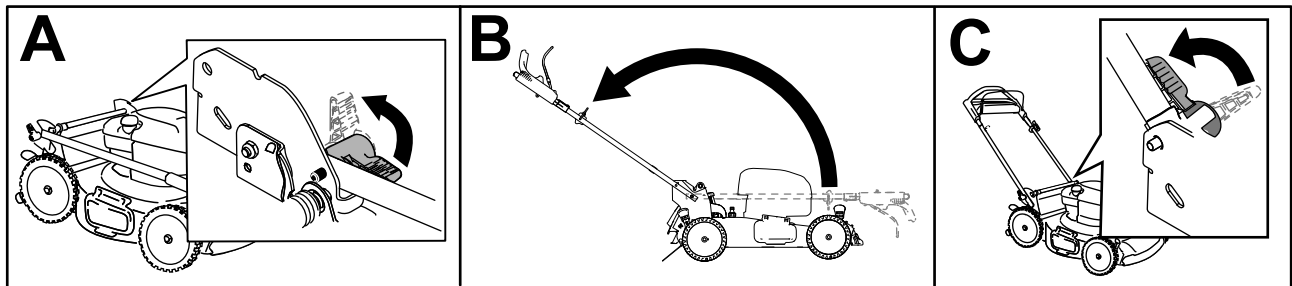

Figure 4
1. Unlock the handle (A of Figure 4).
2. Move the handle rearward to the operating position (B of Figure 4).
3. Set the handle lock until the pin clicks in place to lock the handle into the operating position (C of Figure 4).